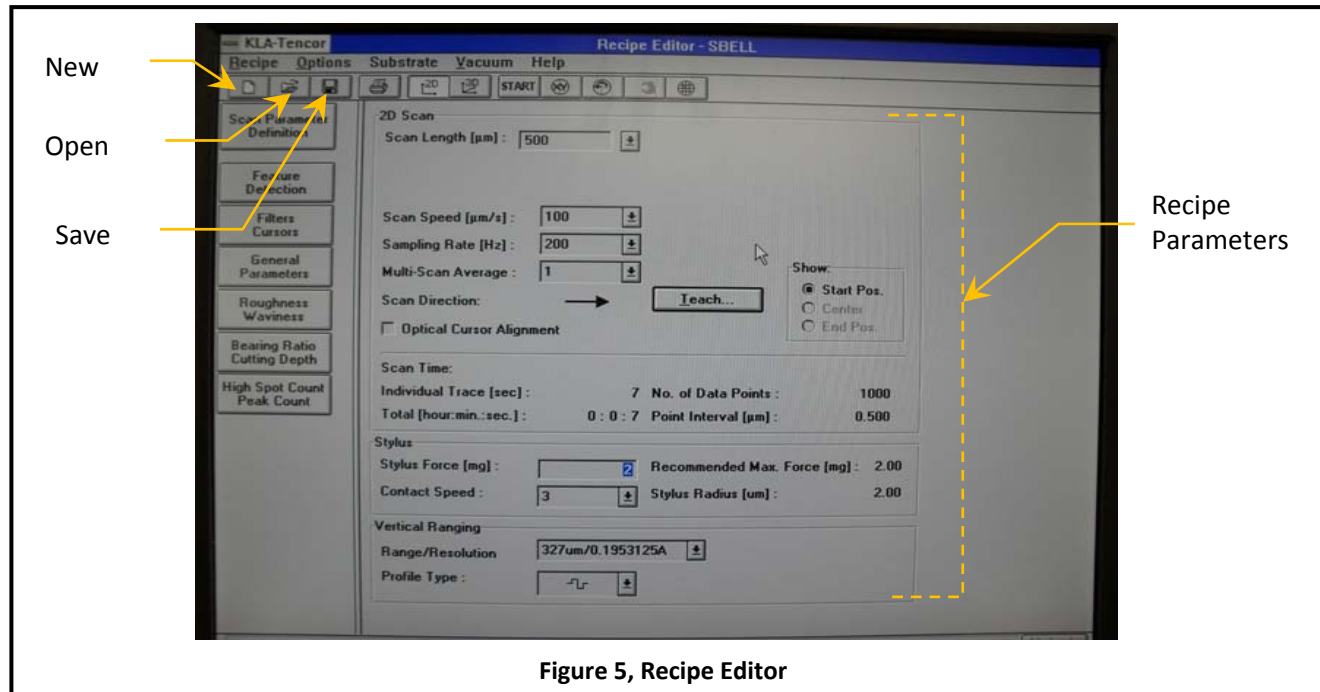

Figure 5, Recipe Editor
6.2.1 Go to the Recipe Editor window. See *Figure 5, Recipe Editor*.
6.2.2 Click on the Open button or go to the Recipe menu to open an existing recipe. See *Figure 5*.